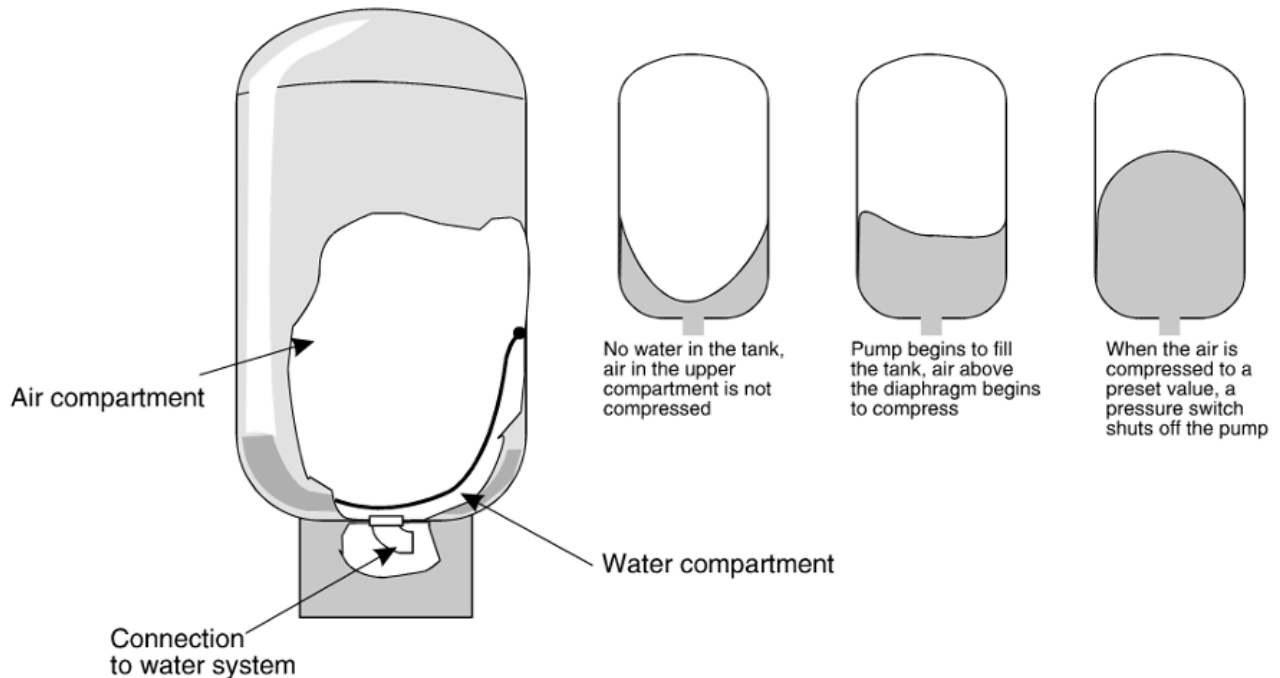

Figure 23. Diaphragm pressure tank operation
The operation of a pressure tank is based on the principles of air and water separation. Inside the tank, there is a flexible bladder or diaphragm that divides the tank into two compartments: one for water and the other for compressed air (Figure 23). When the pump fills the tank with water, the air inside the tank is compressed further, increasing the pressure. This compressed air acts as a cushion, exerting pressure on the water and maintaining a consistent pressure in the system even when the pump is not running.
Notice on the diaphragm pressure tank shown in Figure 23 the flexible diaphragm attached to the inner sides of the tank. A bladder pressure tank uses a balloon-type flexible membrane that is attached to the inlet/outlet connection to the tank, essentially creating a bag that the water is stored in. The advantage of a bladder tank is that no water comes in contact with the tank itself. This is particularly helpful if the water has corrosive properties.
- Figure 23. “Diaphragm pressure tank operation” from SkilledTradesBC is used for